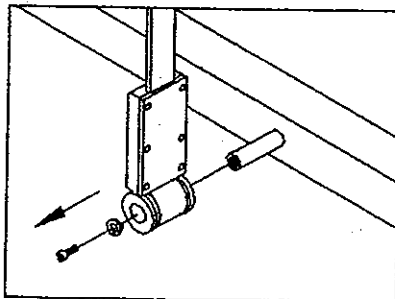

Fig. 9
8. Unscrew the screw and washer on the end of the stair arm belt on each side (see Fig. 9).